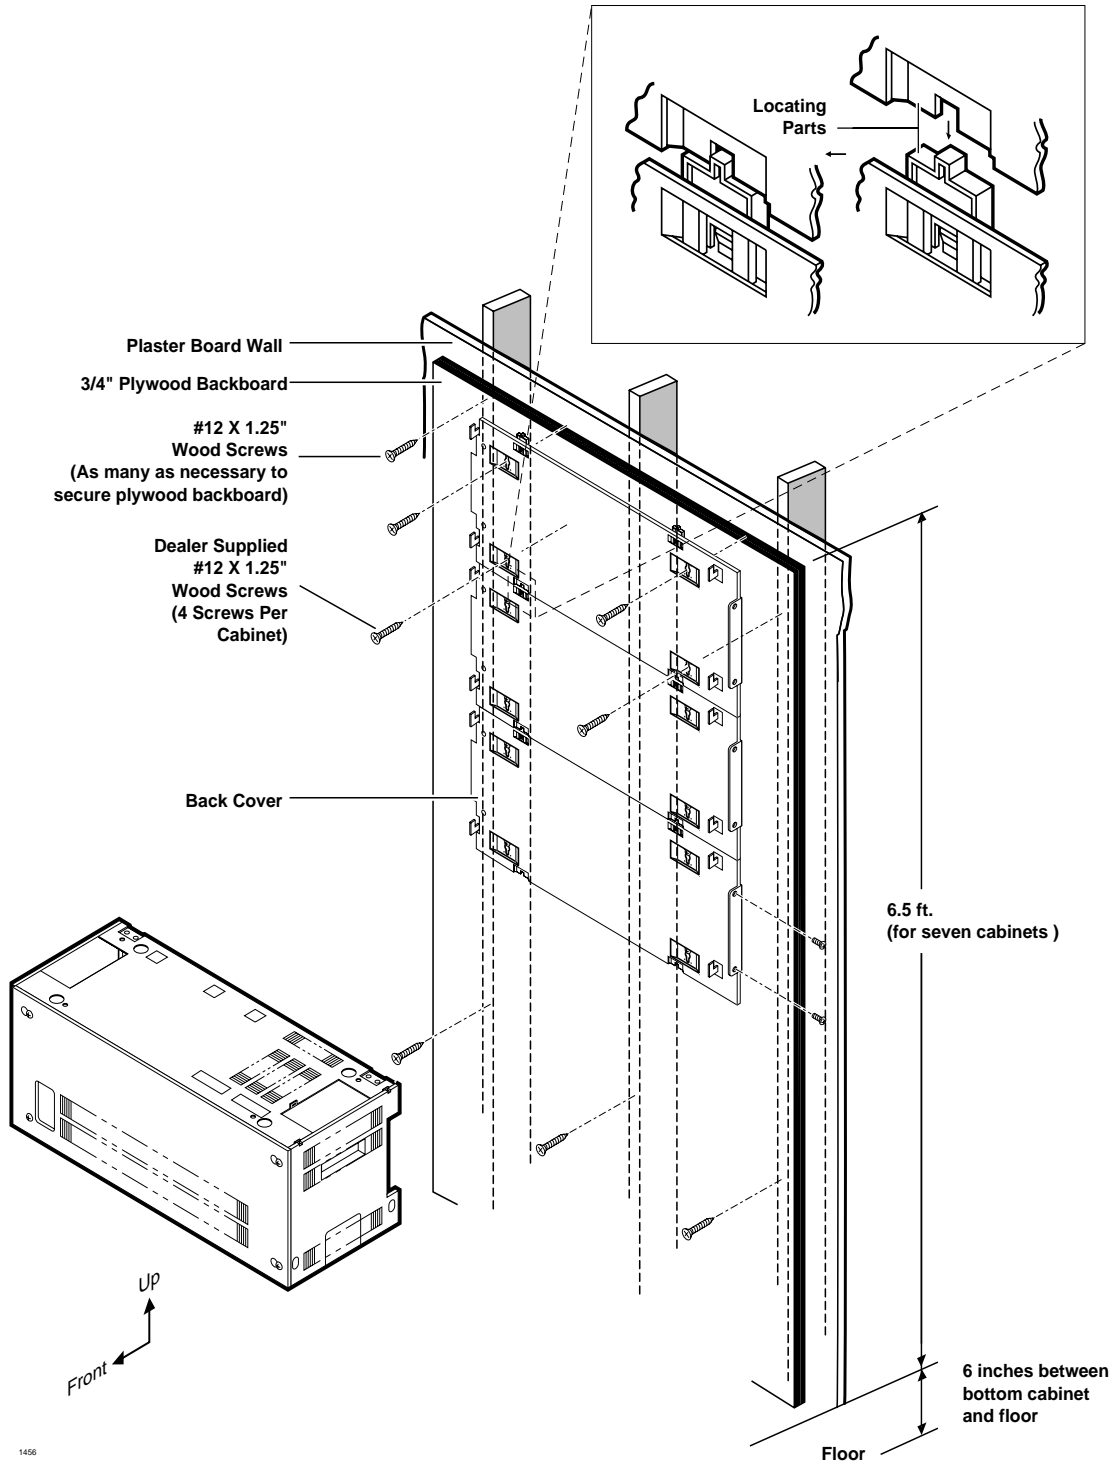

Figure 5-5 DK424 Cabinet Mounting Surface Diagram (with Plywood Backboard)
If the cabinet mounting holes align with wall studs, the cabinet can be installed directly on the wall (see Figure 5-4). For more than two cabinets, a wooden backboard between the cabinet and the wall is highly recommended (see Figure 5-5).
**Note** Toshiba recommends installing cabinets (see Figure 5-5~5-10 and 5-27) from the top down, with the Base Cabinet on top, the first Expansion Cabinet below it, the second Cabinet below that, etc.
Remove plastic locating parts from all cabinet back covers using Phillips screwdriver (Figure 5-5).